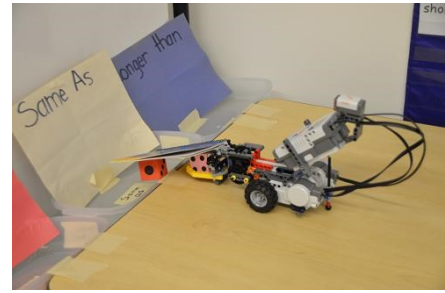

Figure 3
- Drives the object to the appropriate bin. See Figure 3